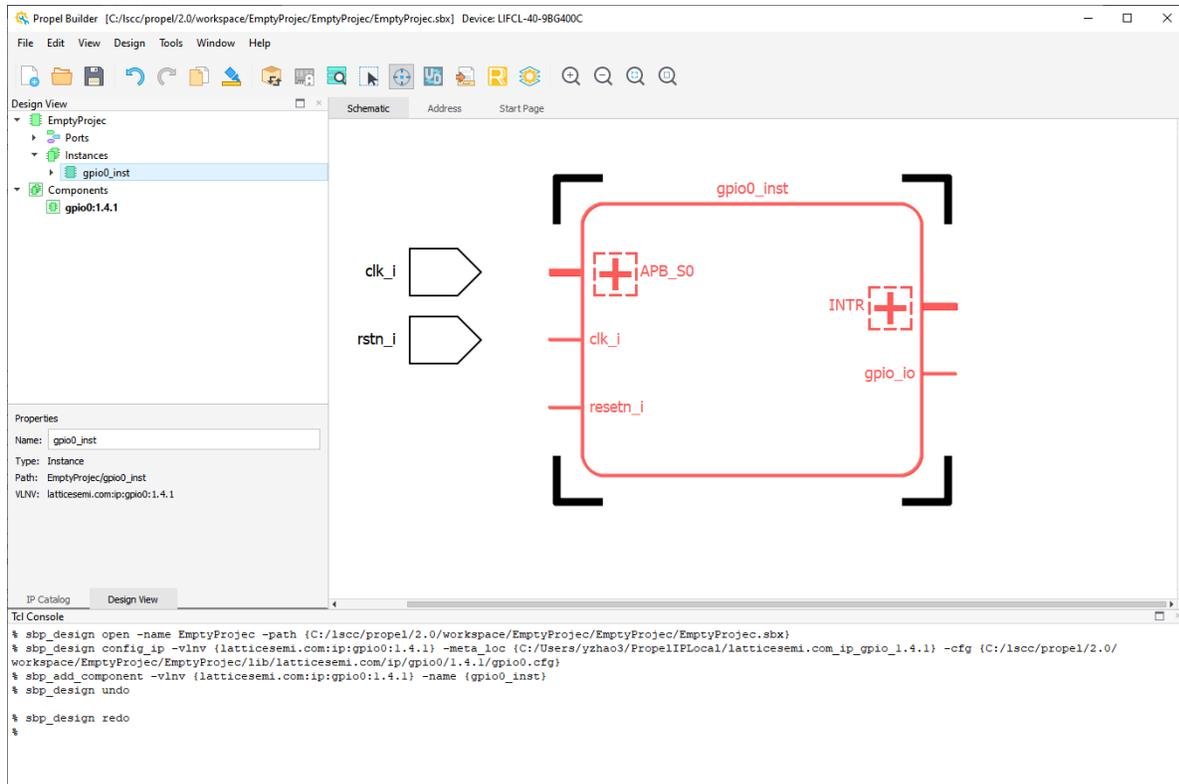

Figure 2.33. Locate Objects
- b. Select the object in the List view of the Design View. The selected object is in the center of the Schematic View (Figure 2.33).